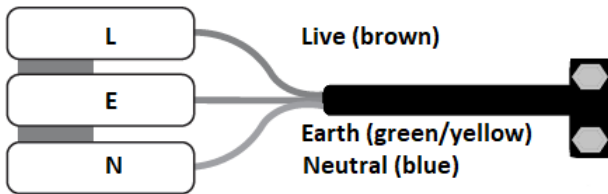

Fig. 1
- Ensuring correct polarity is observed, carefully wire as shown in Fig. 1
- Connect the luminaire to the mains supply ensuring the correct polarity is observed (see Fig. 1): L - Live (brown), E - Earth (green/yellow), N - Neutral (blue). The earth terminal is non-functional and only provided for convenience